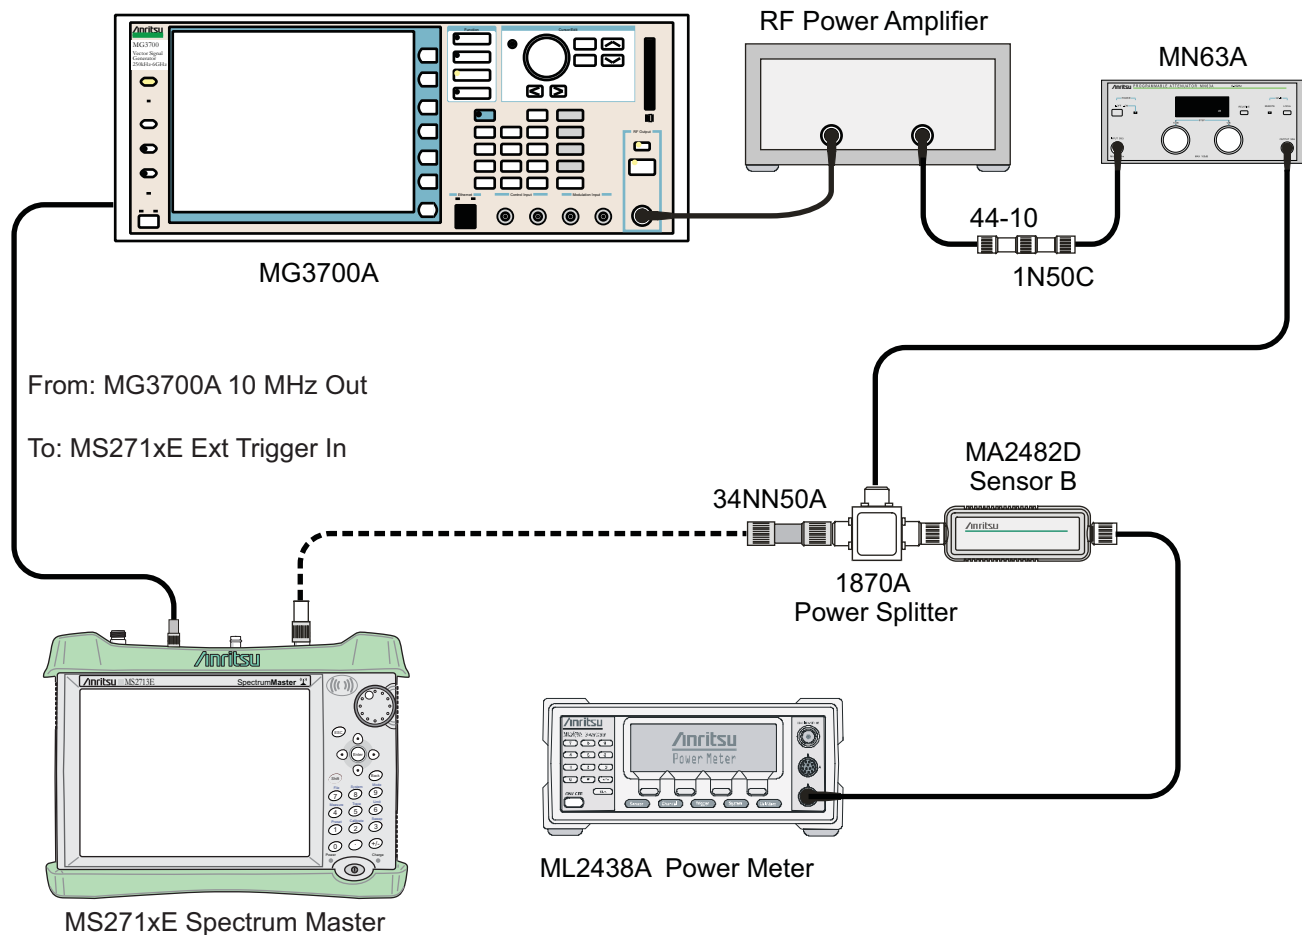

Figure 4-3. ISDB-T Level Accuracy and 1 dB Compression Level Post-test Setup
15. Remove Sensor A from the Power Splitter and then connect the Power Splitter to the MS271xE Spectrum Analyzer RF In with an N male to N male adapter as shown in Figure 4-3.
13. Remove Sensor A from the splitter and connect the MS271xE RF In to the open end of the splitter using an adapter as shown in Figure 4-3.